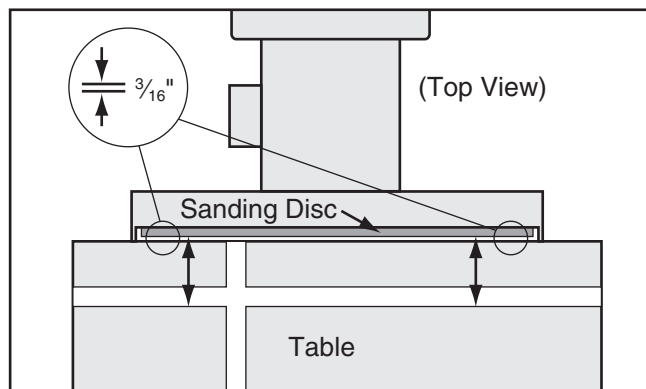

Figure 24. Table parallel with sanding disc.
3. Adjust the table so that there is a $\frac{3}{16}$ " gap (**Figure 24**) between the disc (with sandpaper installed) and the edge of the table along its full length.